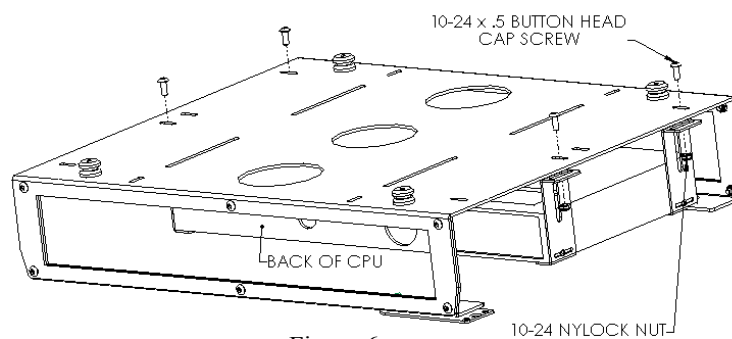

Figure 6
4. Attach CPU to Interface Adapter using the 10-24 x .5 Button Head Cap Screw and Nylock nuts (see Figure 6). For door access, make sure the computer's front faces out through window of interface adapter. Slots have been placed to allow left or right CPU mounting.